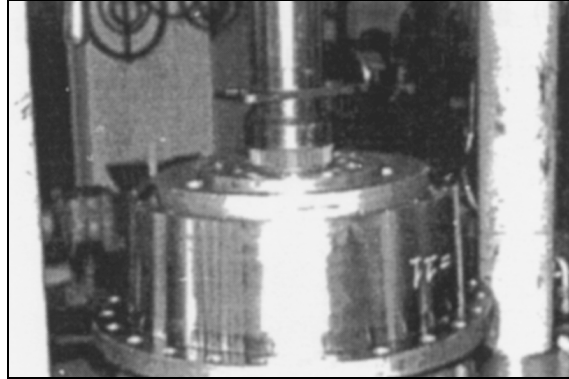

Figure 108
17. Press planetary gear carrier into hub. Figure 108.